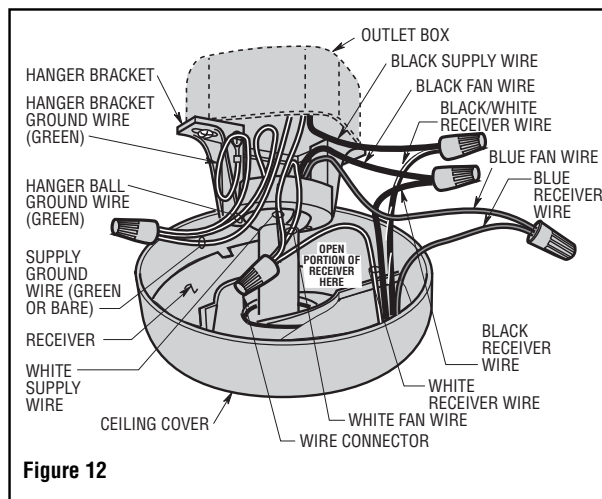

Figure 12
1. Position the receiver into the ceiling cover as shown in Figure 12. Place the antenna wire on top of the receiver.
2. Refer to Figures 12 and 13 to connect the receiver wires to the supply wires and the fan motor wires using the wire connectors supplied with the fan as follows:
- a. Connect the green grounding lead from the hanger ball and the green grounding lead from the hanger bracket to the grounding conductor of supply (this may be a bare wire or wire with green colored insulation). Securely connect wires with wire connectors supplied (Figure 12).